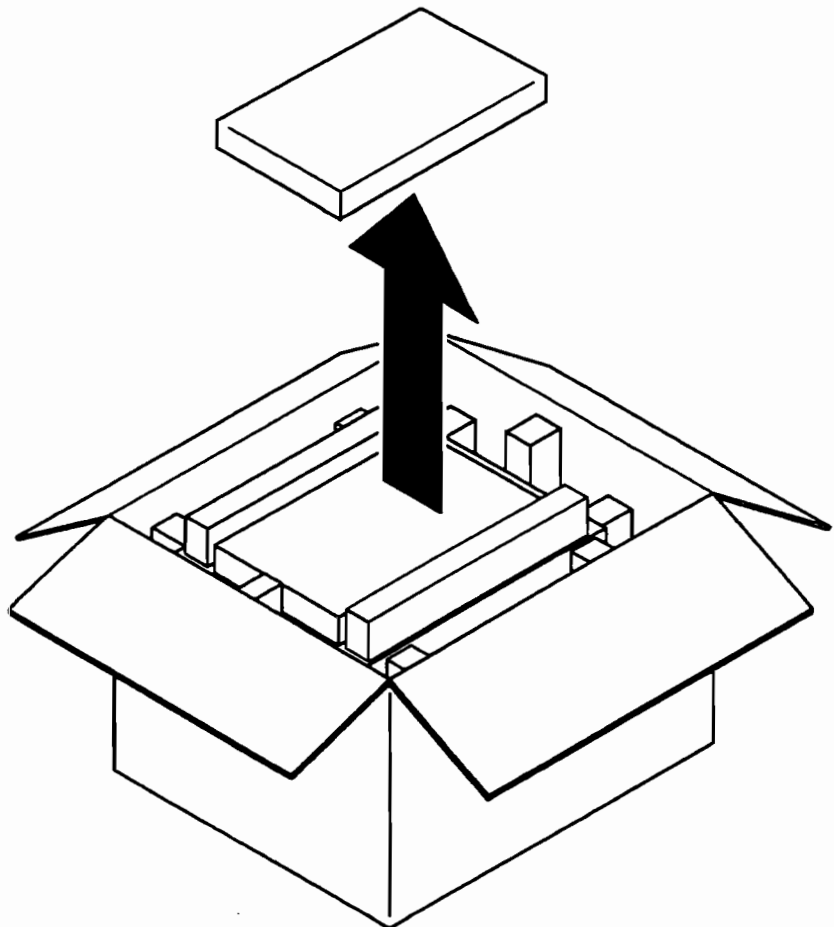

Figure 2-2. Removing the Parts Box
1. Remove the parts box as shown in figure 2-2 and identify the contents using the drawings in chapter 1.